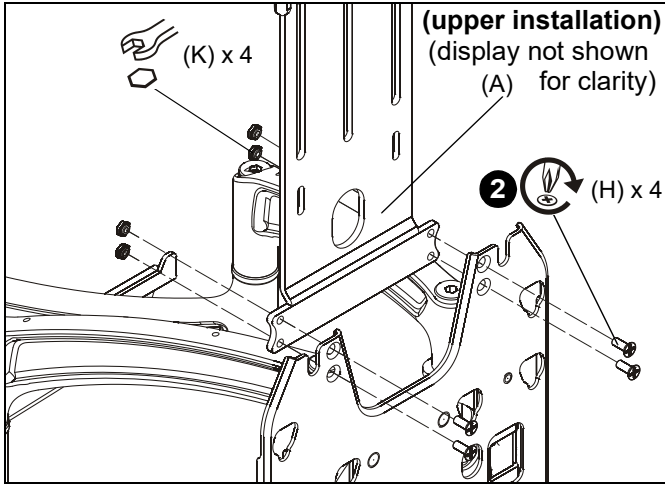
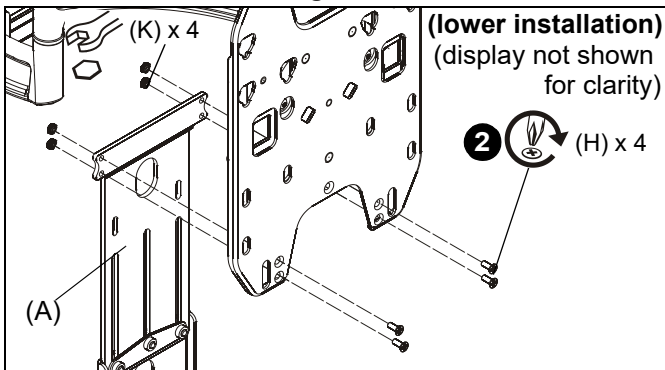

Figure 4
Figure 5
2. Use four #10-24 x 1/2" Phillips head screws (H) and four #10-24 lock nuts (K) to connect attachment bracket (A) to faceplate. (See Figure 4) and (See Figure 5)